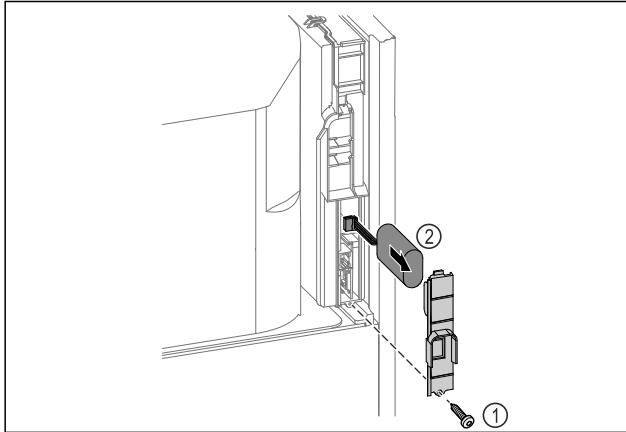

Fig. 218
- ▶ Unscrew screw and remove cover from the back of the appliance Fig. 218 (1).
- ▶ Disconnect the battery and remove it Fig. 218 (2).